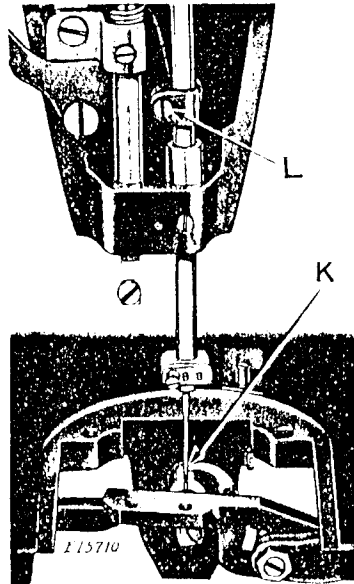

Fig.5 Needle Bar Set at Correct Height
If the needle bar is not set at the correct height, remove the face plate and loosen the needle bar connecting stud clamp screw (L, Fig.5). Raise or lower the needle bar to the required height, then securely tighten the screw (L).
With the needle bar at its lowest position, turn the balance wheel toward you so that the needle bar moves up 1/8 inch. In this position, the point of the looper should be at the center of the needle and slightly above the needle eye as shown at (K, Fig.5).